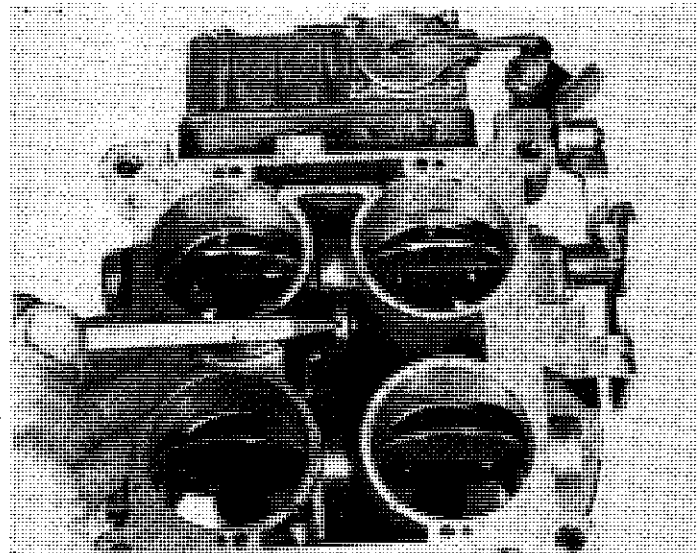

Fig. 5
5. Install the new cam (supplied) and complete the reassembly in reverse order of disassembly, noting the position of the cam. (See Fig. 5)